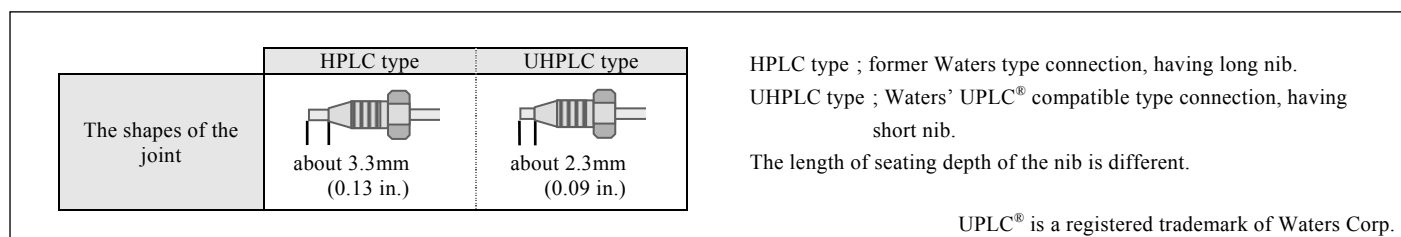

Figure 1. Difference between HPLC type and UHPLC type fitting.
2. The connection type of COSMOSIL Column is the same type (HPLC type) as the former Waters compatible type. In the case of using systems having UHPLC type fittings, please use suitable or PEEK fittings to connect COSMOSIL Column. [Fig.1]